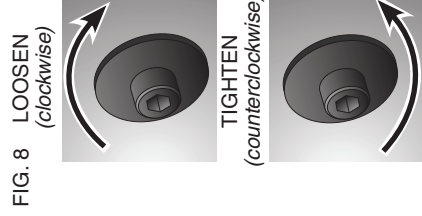

FIG. 8
2. Retract the lower blade guard (G) and place blade on saw spindle against the inner clamp washer, making sure that the blade will rotate in the proper direction (the direction of the rotation arrow on the saw blade and the teeth must point in the same direction as the direction of rotation arrow on the saw). Do not assume that the printing on the blade will always be facing you when properly installed. When retracting the lower blade guard to install the blade, check the condition and operation of the lower blade guard to assure that it is working properly. Make sure it moves freely and does not touch the blade or any other part, in all angles and depths of cut.
3. Place outer clamp washer (R) on saw spindle with the large flat surface against the blade with beveled side facing out.
4. Thread blade clamping screw (S) into saw spindle by hand (screw has left-hand threads and must be turned counterclockwise to tighten, as shown in Figure 8).